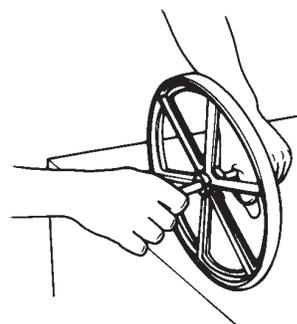

Fig. 17
12. **This step MUST be done within five minutes of Step 11.** Remove the wheel from the vise. Insert a 1/2" dowel rod through the axle of the wheel. (See Figure 17.) Roll the wheel so the adhesive, tire and wheel will become bonded to each other. The rolling action equalizes the tire's thickness and smoothness around the wheel.